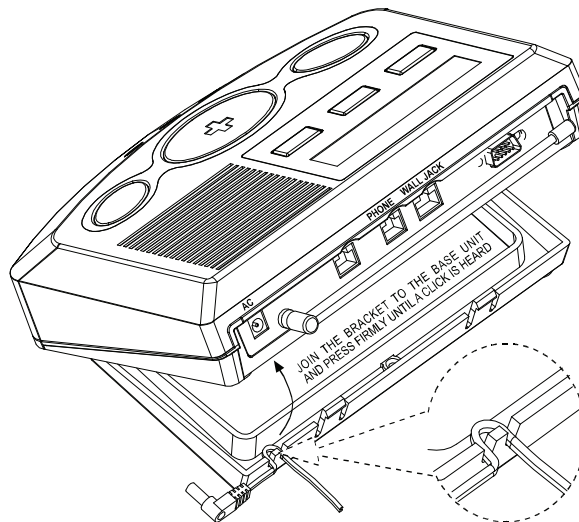

Figure 5a – Looping the Power Cord
### Plug in the Base Unit (Figures 5a/b)
1. Loop the power cord around the bracket segment as shown in figure 5a.